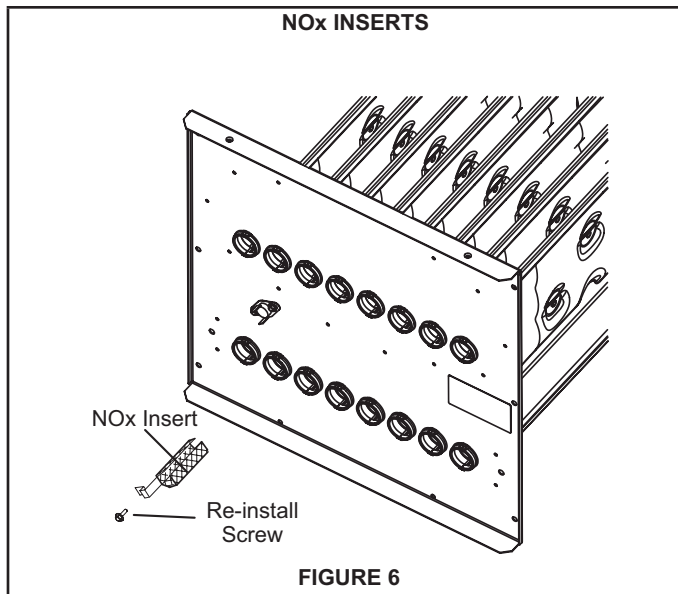

FIGURE 6
NOTE - When converting an ML180(X), EL180(X) and 80AF1(X) NOx unit from LP/Propane back to use with natural gas, the original NOx inserts must be reinstalled. See figure 6. Secure the original inserts if available, using the original screws that were re-installed in the vestibule panel. If the original inserts are not available, order replacement kit (70W15).